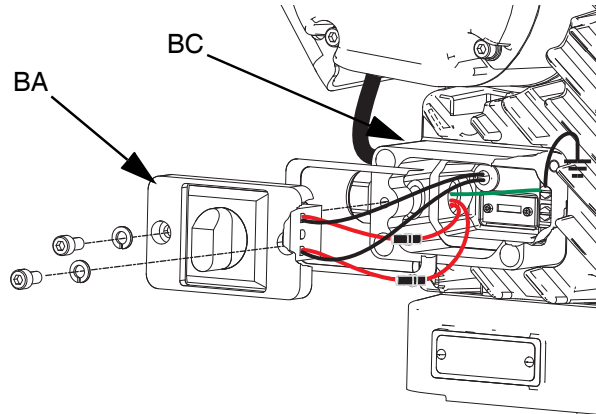

FIG. 5: Remove Junction Box Cover
NOTE: Inside the junction box, fan and power wires are connected to terminals 1L1 and 5L3 on the disconnect block. Refer to Fig. 6 for the terminal locations. Two wires are connected to each terminal and the fan ground wire is connected to the ground terminal as shown in Fig. 5.
2. Turn the disconnect switch (K) OFF. Connect the unit to the power source. See FIG. 5, page 10.